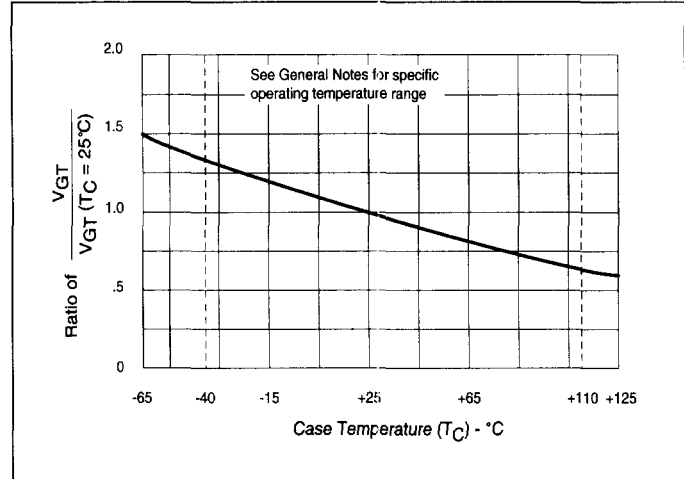

Figure 5.12 Normalized DC Gate-Trigger Voltage vs Case Temperature
- (4) See Figure 5.12 for V_{GT} vs T_C .